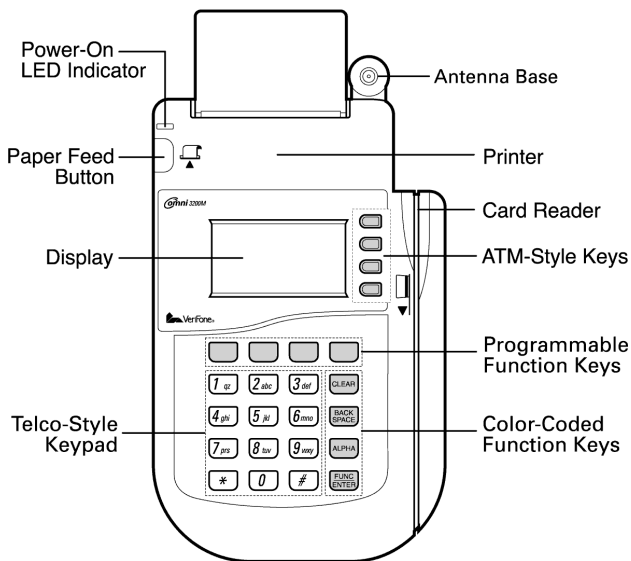

Figure 3 Features of the Omni 3200M Terminal
Before you continue the installation, please take a moment to note the important features of the Omni 3200M, as shown in Figure 3 below.
- **24 keys**, arranged in groups (see Figure 3):